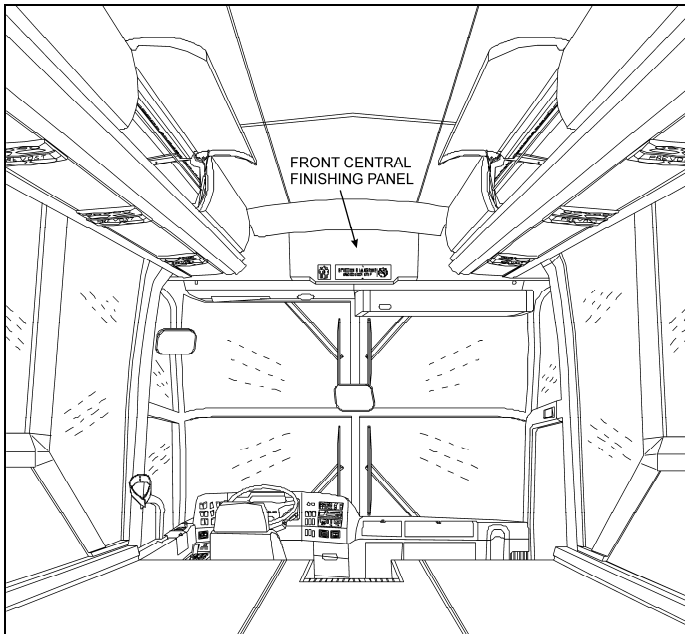

FIGURE 1
4. Remove front central finishing panel fixing screws (Figures 1 & 2).